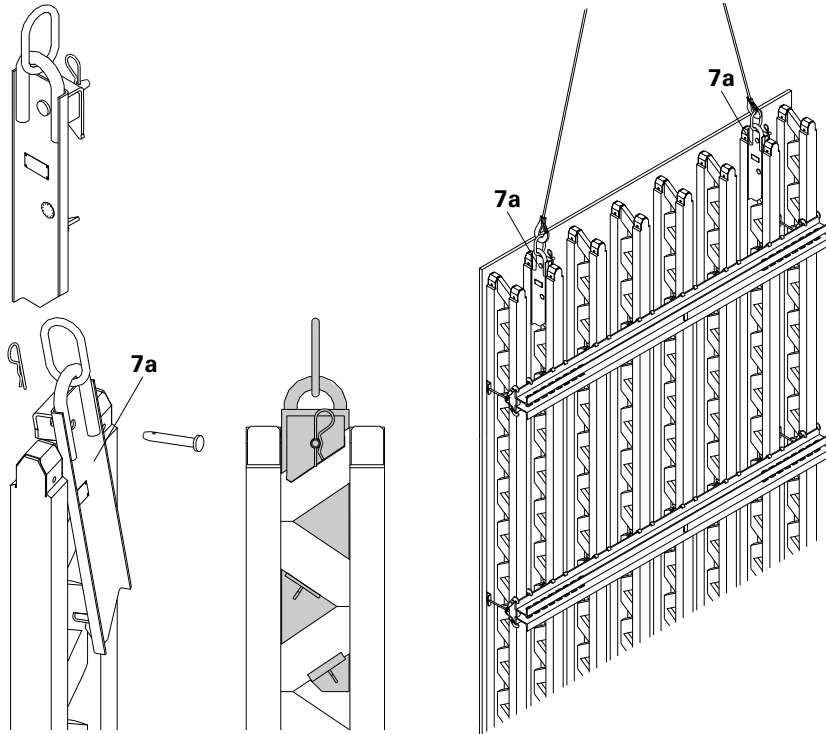

Fig. B3.01
- always attach 2 pieces symmetrically to the centre of gravity. (Fig. B3.01)